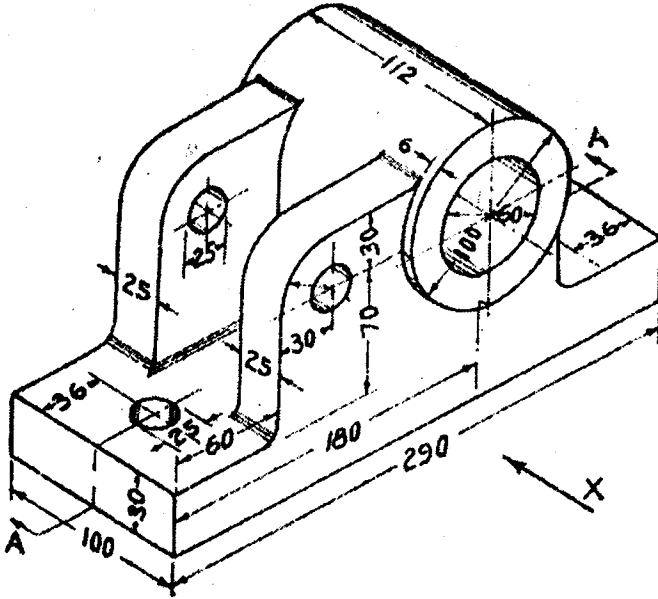

Figure 1
6. Draw Front view, Side view and Top view of the object shown in Figure 1. Show all dimensions on drawing.